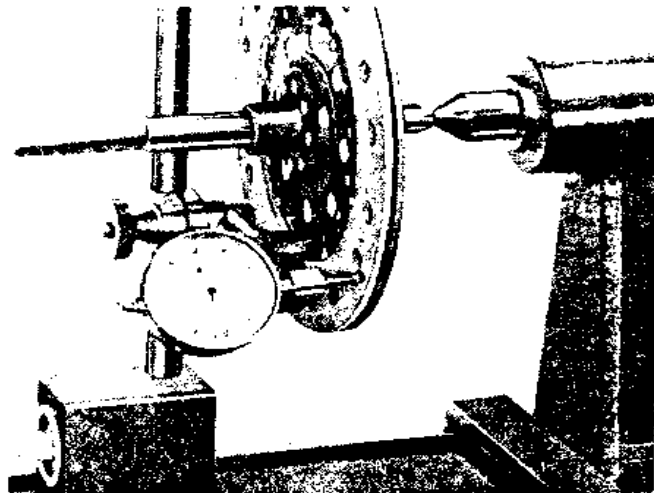

Figure 4 **Checking clutch disc run-out**
- (g) Check the disc for run-out; measure 2.5 mm from the outer edge of the disc. The maximum run-out is 0.5 mm, see Figure 4.